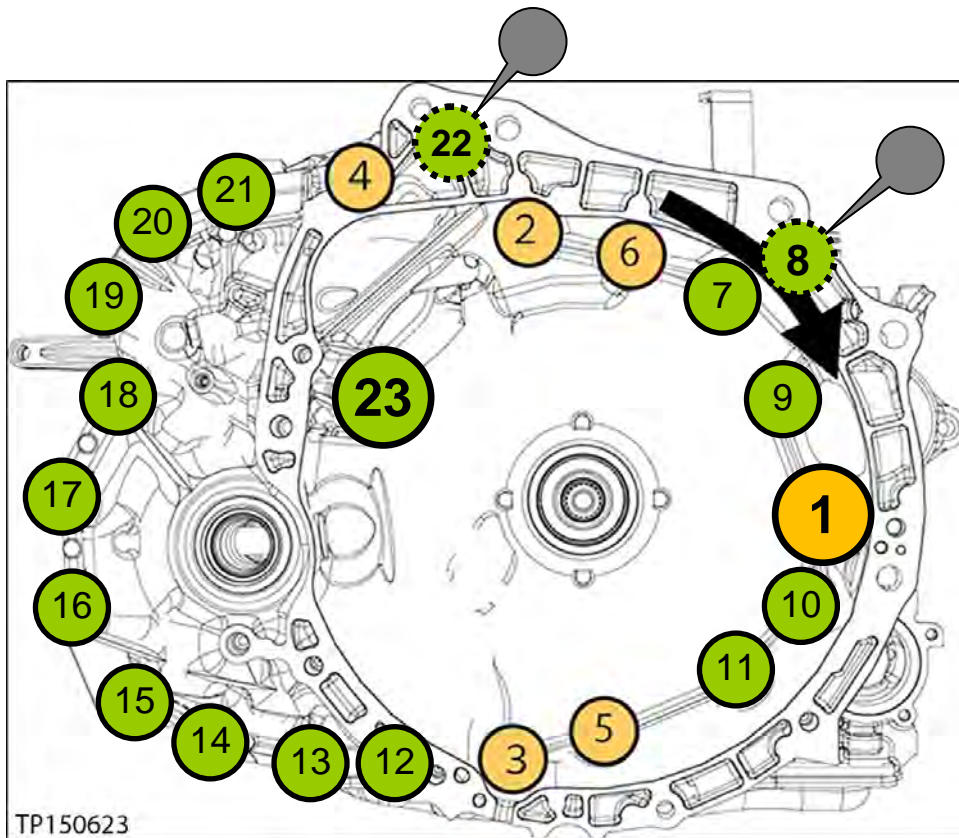

Figure 81
a. Torque the first six (6) bolts with symbol  in numbered sequence (see Figure 81).
b. Torque the remaining bolts with symbol  in numbered sequence (see Figure 81).
**IMPORTANT:** Make sure to torque the bolts in the sequence shown in Figure 81 ONLY.